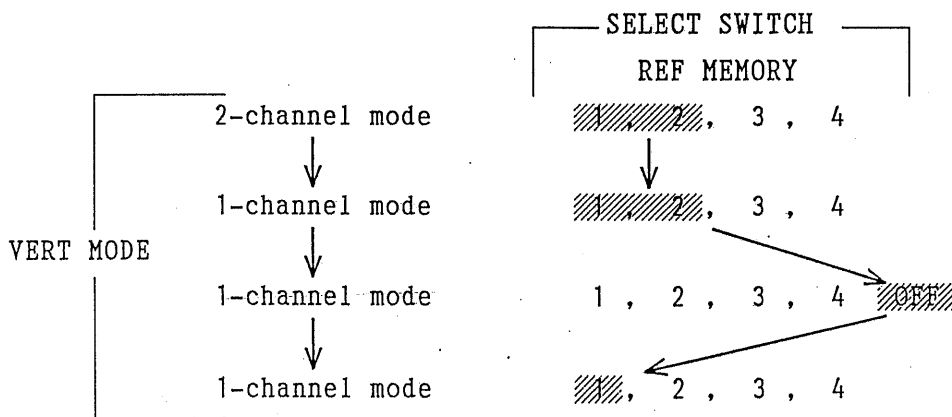

Figure 5-2. Relationship Between Vertical Channels and Reference Memory Units
Indication of memory assignment remains unchanged even when you have changed the number of channels with the VERT MODE switch ③⑨. As you press the REF MEMORY switch ④⑥ again, the reference memory is turned off. As you press the switch once more, the reference memory units are assigned to the channels you have selected. (See Figure 5-2.)